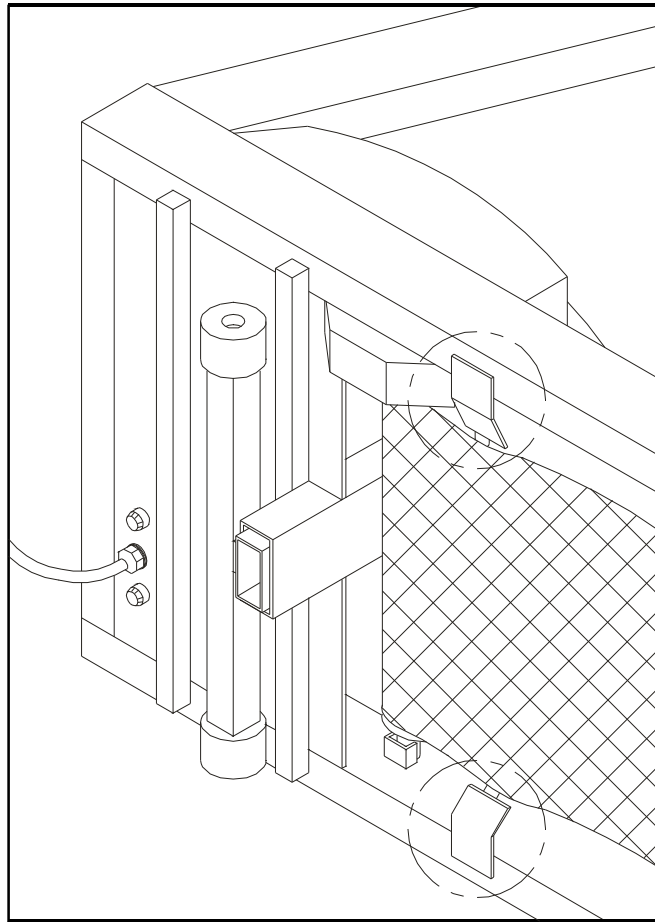

Fig.2
2. Lay the treadmill on its side. Make sure the running belt is in position in the tracks of the BELT ALIGNMENT GUIDE on the underside of the machine (see Fig.2).